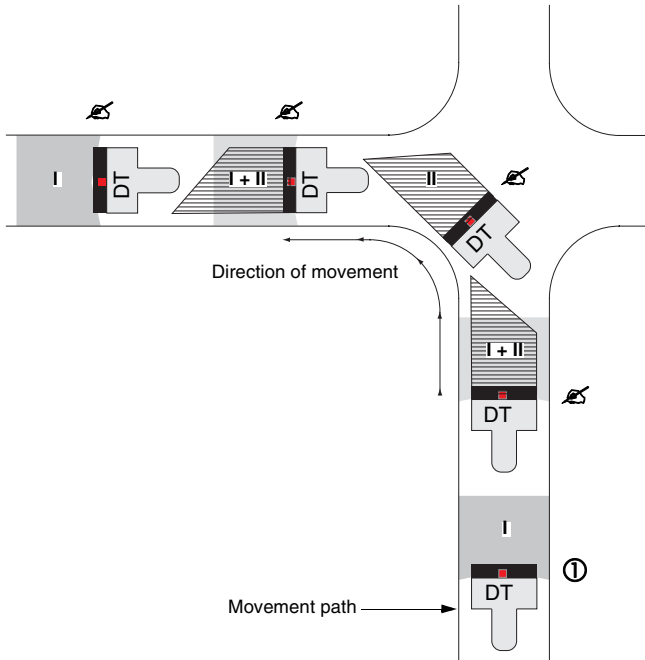

Figure 5.3: Example: Detection field pair switch for a DTS application
**The following situation would be possible with a DTS application (see figure 5.3):**